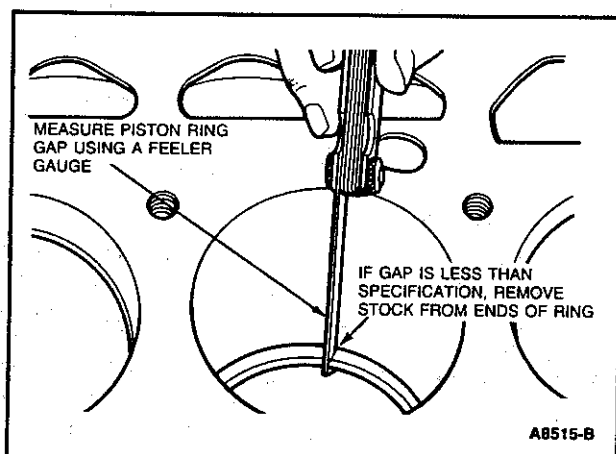

Figure 38 Piston Ring Gap Check
5. Measure the gap between the ends of the ring with a feeler gauge (Figure 38). Ring gap in a worn cylinder is normally greater than specification. If the ring gap is greater than the specified limits, try another ring set.